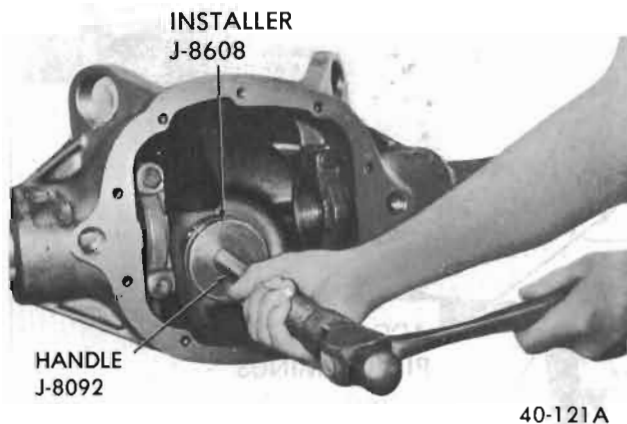

Figure 40-126 - Installing Rear Pinion Bearing Outer Race
1. If rear pinion bearing is to be replaced, use Installer J-8608 on 8 1/2 inch ring gear axles or Installer J-9745 on 9 3/8 inch ring gear axles with Driver Handle J-8092. See Figure 40-126.